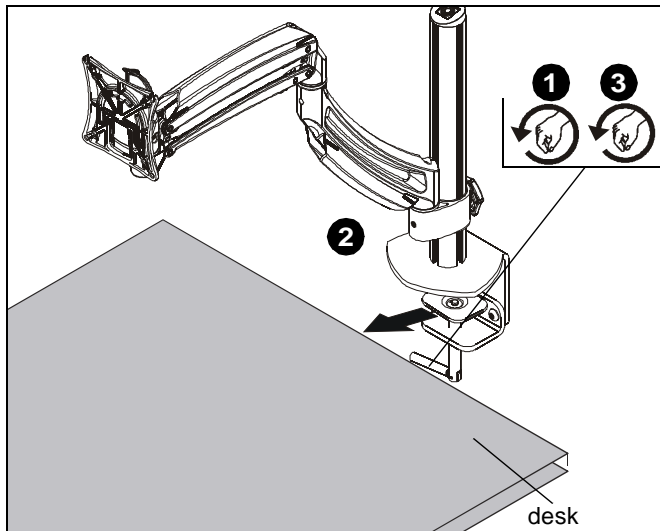

Figure 1
1. Loosen clamp screw until enough space is created between clamp and mount to allow for desk mounting. (See Figure 1)
2. Place mount on top of desk at desired mounting location. (See Figure 1)
3. Tighten clamp using clamp screw until mount is securely fastened to desk. (See Figure 1)